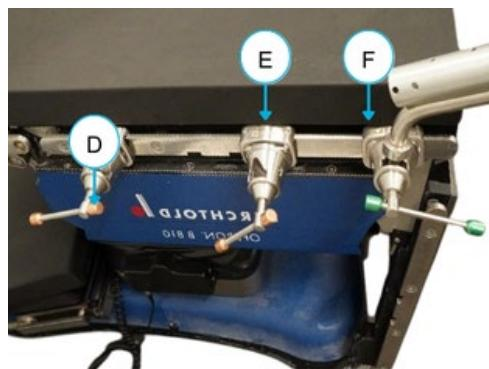

Figure 10-24 : Field Generator Arm Clark Clamp
2. Place the end of the Field Generator Arm in the Clark Clamp (**D**) on side of bed closest to Generator (**Figure 10-24**).